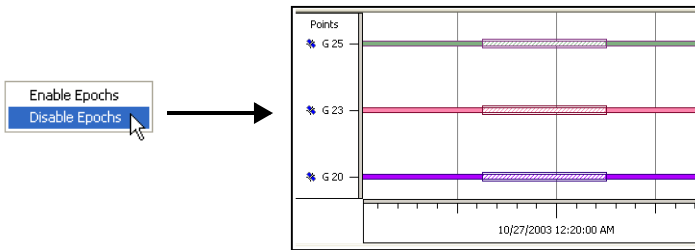

Figure 6-7. Disable Selected Epochs
3. Once selected, right-click within the view and click **Disable** (or **Enable**) on the pop-up menu. Disabled epochs display with slanting lines (Figure 6-7).